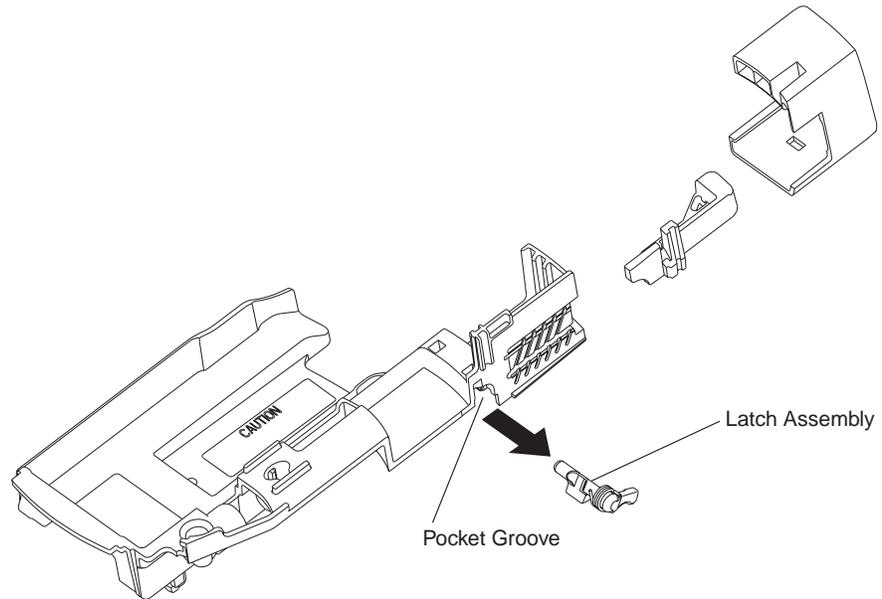

Figure 10 Removing the Latch Assembly
- a. Using a small, flat-bladed screwdriver, deflect the long arm of the kicker spring (3) in the direction the spring is wound, until the arm clears the plastic.
19. Referring to Figure 10, remove the pocket lid housing (26):
- a. Turn the pocket housing (5) upside down, so that the label (28) side faces downward.
- b. Insert a small, flat-bladed screwdriver at the base of the pocket lid housing (26), and wedge the blade between the pocket lid housing and the pocket housing.
20. Remove the purple eject button (27) from the pocket by sliding it out of the groove.
21. Referring to Figure 10, pull on the latch assembly (6) and slide it out of the pocket groove.
22. Remove the printed circuit board (PCB) assembly (11) by lifting up on the back end of the PCB (the end with connectors). Pivot the PCB at the volume knob until the PCB clears the volume knob opening in the back housing (14).